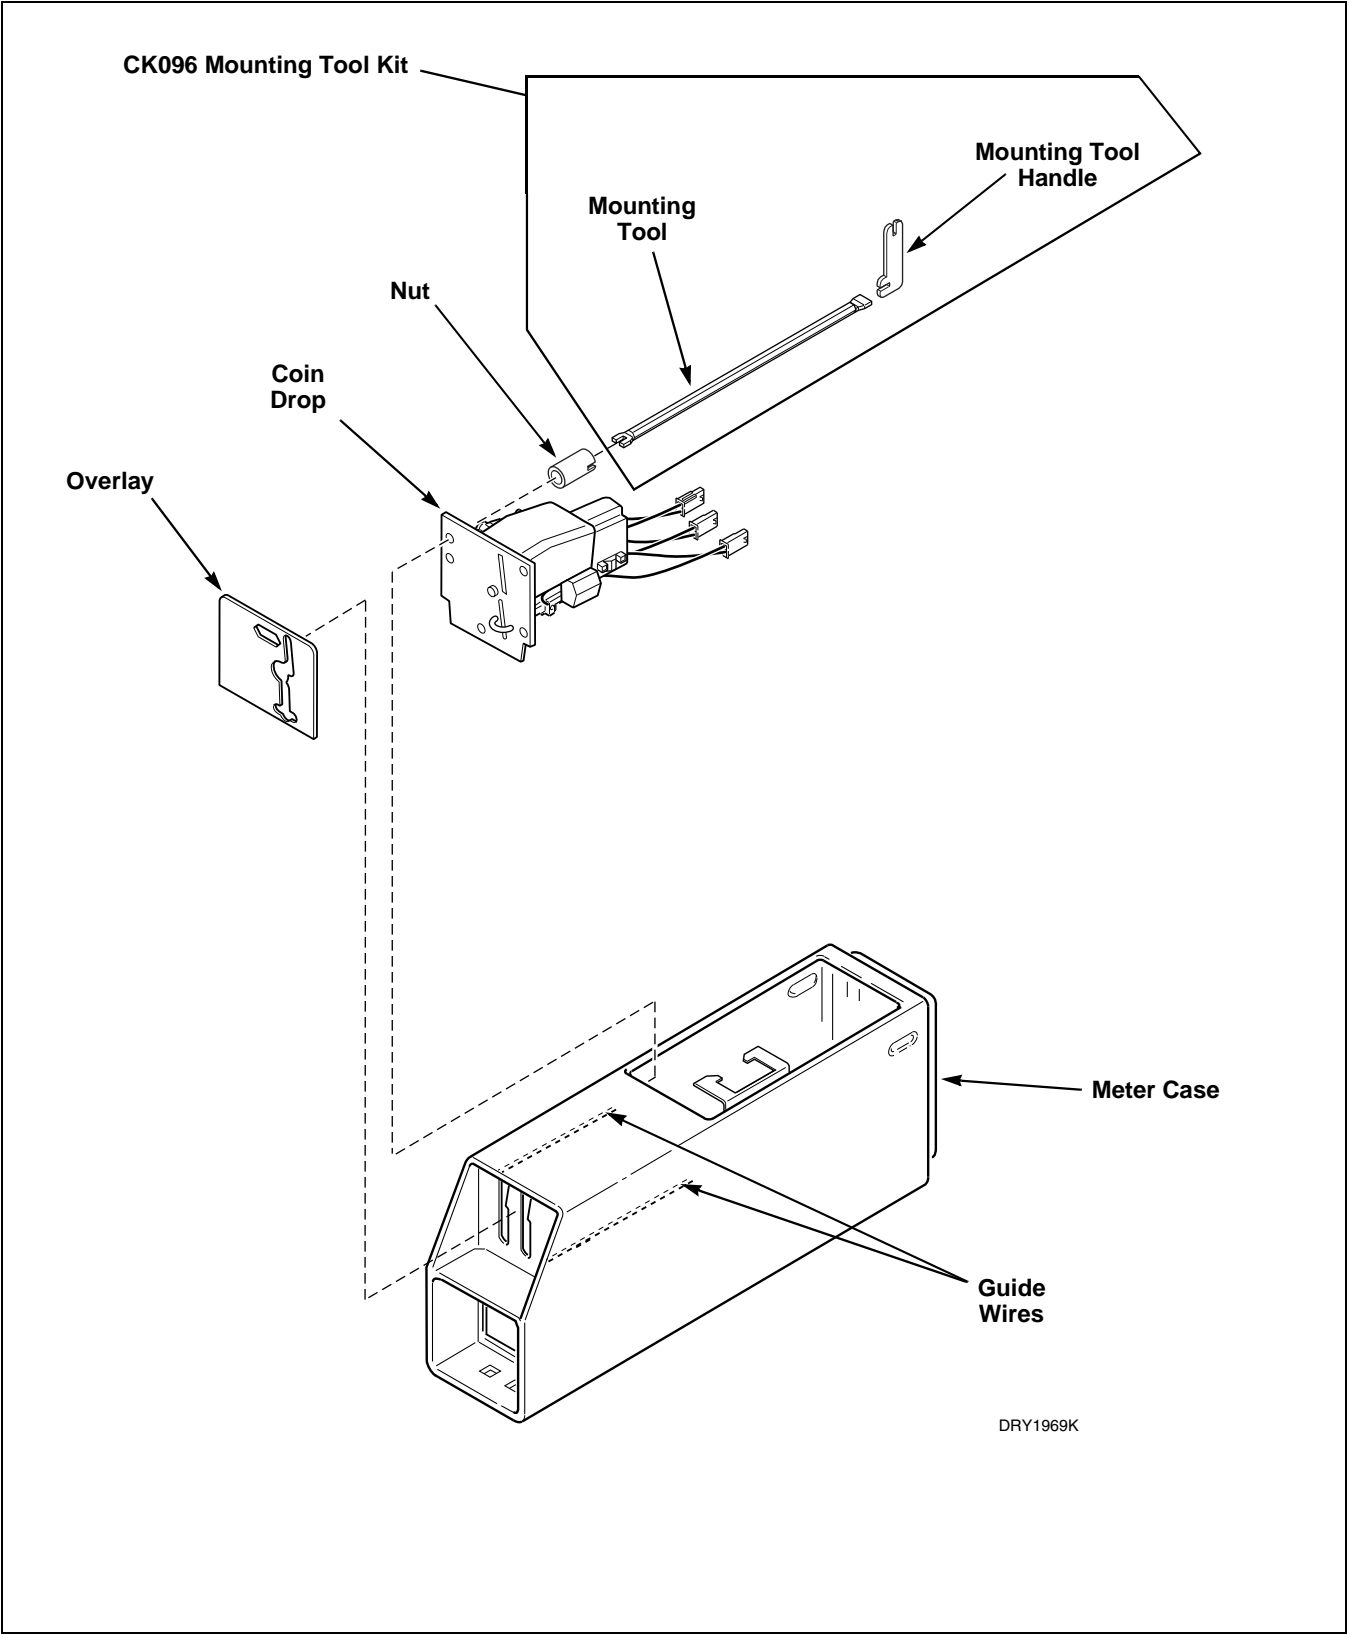

Figure 38
- (4) Using CK096 Mounting Tool Kit, slide mounting tool over guide wire and insert guide wire into hole in mounting tool (located on notched end of mounting tool). Refer to *Figure 38*.
- (5) Loosen nut attaching coin drop to guide wire. Use mounting tool handle for increased leverage. Refer to *Figure 38*.
- (6) Remove nut.
- (7) Repeat for other nut.
- (8) Slide coin drop off guide wires and remove from washer.